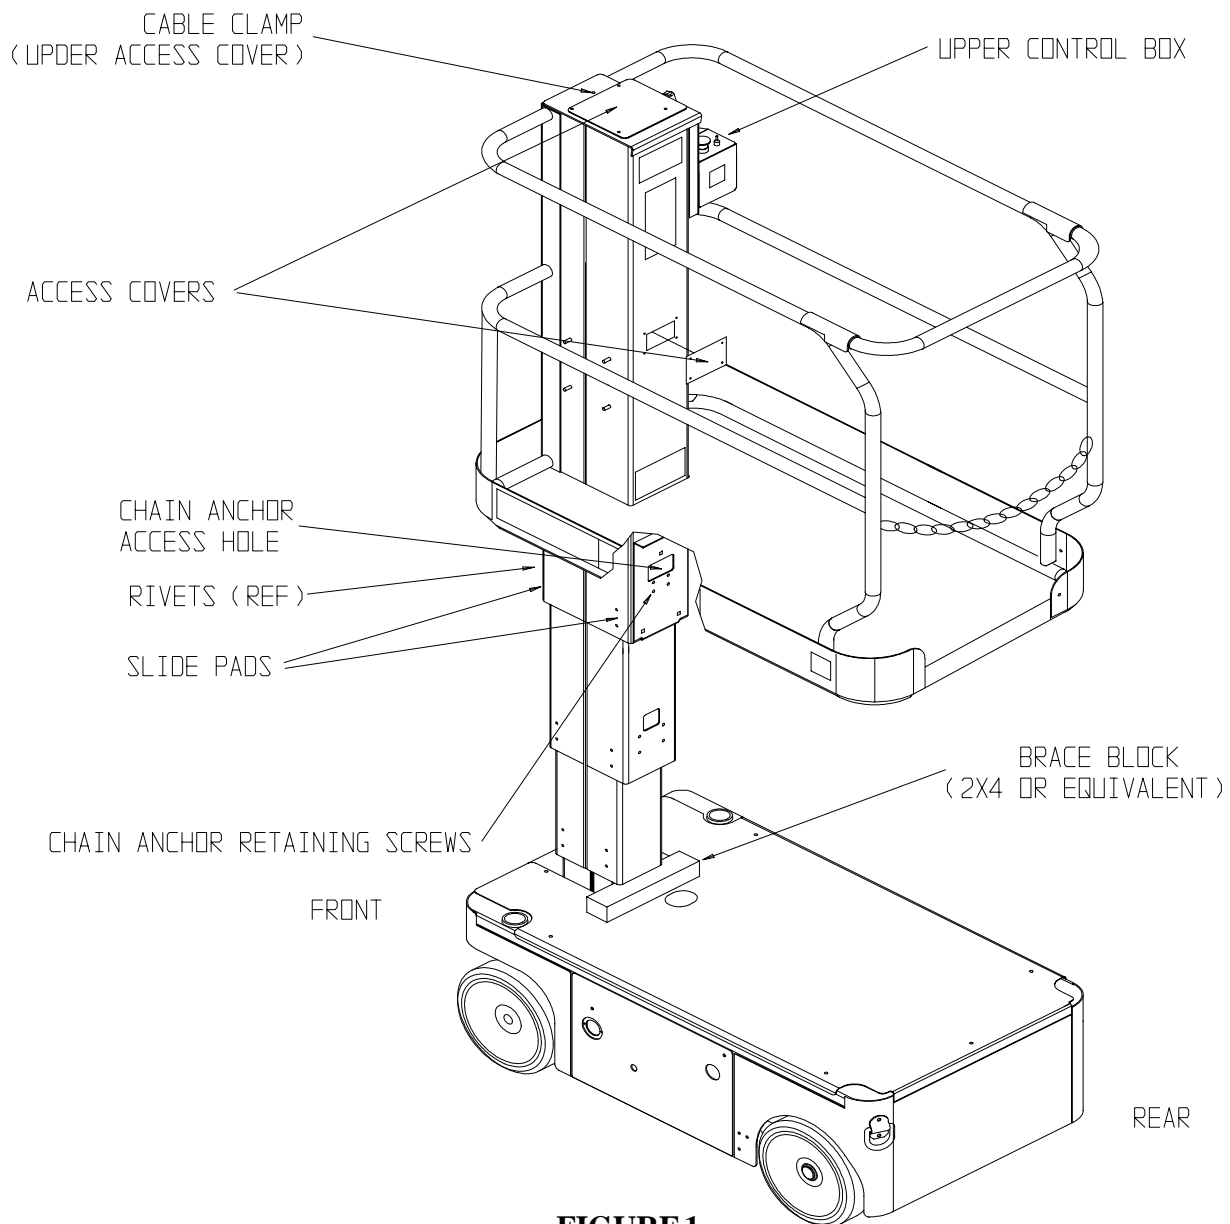

FIGURE 1
1. Raise platform approximately 30 inches and block the mast assembly as shown in **Figure 1**.
5. Remove retaining screws from chain anchor as shown in **Figure 1**.
** If you have any questions regarding this Service Bulletin, please contact the UpRight Product Support Department by telephone at (800) 926-5438 from within the USA or at (559) 662-3900 From Europe countries + 353 (0) 1 620 9300 (Ireland)